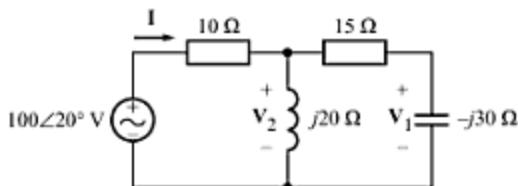

Fig. C-55
- C-84. In the circuit shown in Fig. C-55, (a) find the current \mathbf{I} , and (b) use voltage division twice to find V_1 . [Ans. (a) $2.32 \angle -28.6^\circ \text{ A}$; (b) $77.3 \angle 5^\circ \text{ V}$]